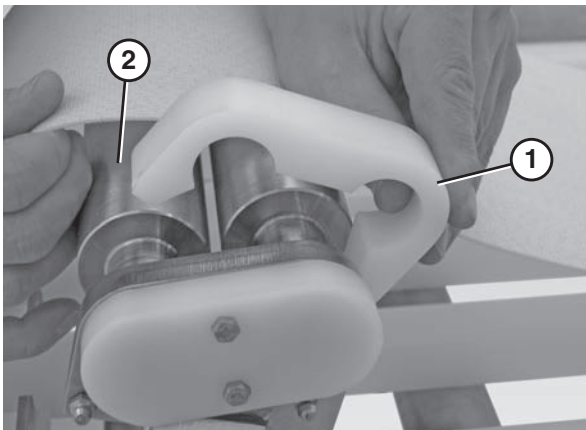

Figure 80
1. Slide the pinch guard blocks (Figure 80, item 1) off the nose bar spindles (Figure 80, item 2).